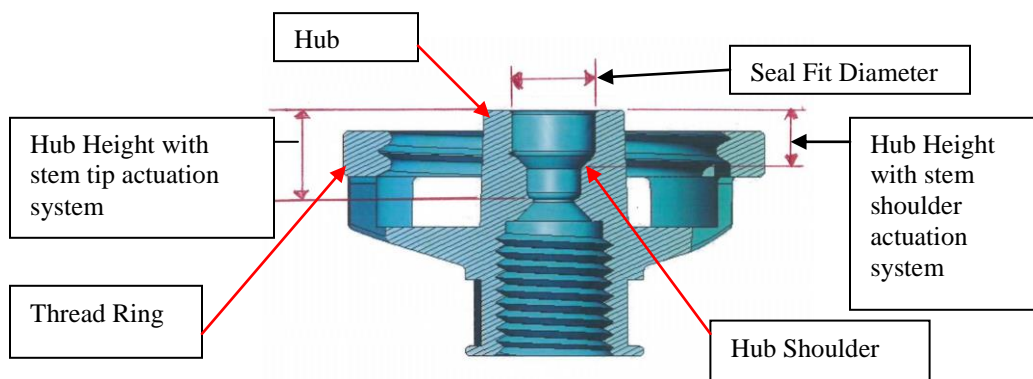
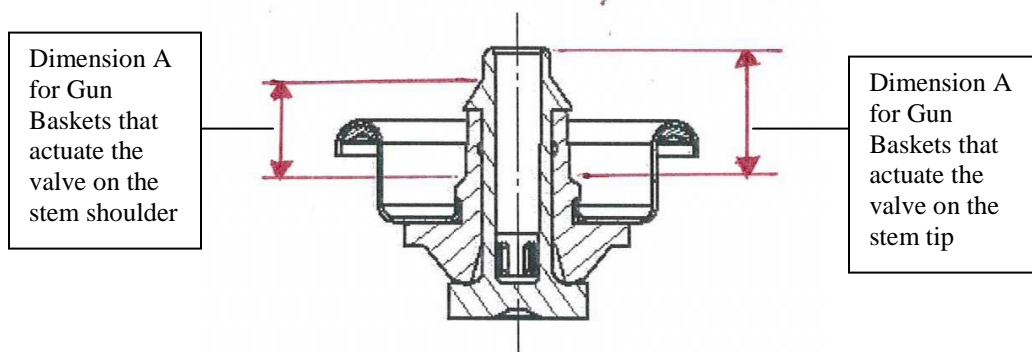
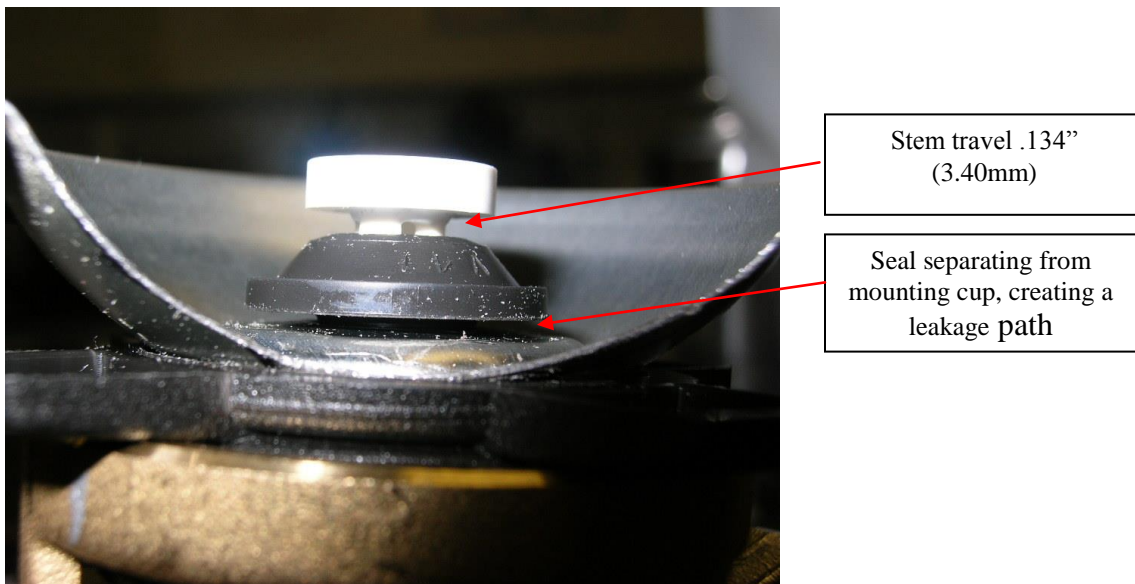

Figure 6 - Dispensing Gun Basket
Figure 21 - Valve Dimension A
Figure 24 - Stem opening distance of 0.134" (3.40mm) causes seal to lift off mounting cup
3. Dispensing Gun's Basket (see Figure 6).
1. The angle of the Hub Shoulder in the Gun Basket (reference Figure 6): Variations in the angle have resulted in point contact instead of surface contact between the stem shoulder and hub shoulder. This, at one time, was the main sealing location that prevented leakage between the can of foam and the dispensing gun. If good contact was not accomplished, foam would leak.
2. The finish on the Hub Shoulder surface in the Gun Basket (reference Figure 6): As above, this surface once provided the seal between the can of foam and the gun. Roughness or damage on this surface caused leaking.
3. Variations in the Gun Basket's seal fit diameter (reference Figure 6): Variations in this diameter affects how the valve's rubber seal forms a seal between the can of foam and dispensing gun. If the diameter is too small it can impact the stem shoulder and open the valve before creating a seal between the valve and gun basket. It can also restrict the expansion of the upper tube of the valve's rubber seal causing the stem and seal to become locked together and move as a unit. This situation puts added pressure on the cup bead of the valve's rubber seal. If the diameter is too large, the valve can open before a seal between the valve and gun basket is achieved. This could result in a momentary leak when installing and removing the dispensing gun from the can.
1. The hub height is too large (reference Figure 6).
To insure there is enough space between the gun basket's hub and mounting cup, when the can is attached onto a gun, the hub height (reference Figure 6) plus the opening distance must be less than Dimension A as shown in Figure 21.
The increasing diameter of the seal contacts the inside of the gun basket's seal fit diameter (reference Figure 6). The contact between the seal and the gun basket is one method that prevents foam leakage. The further the valve is opened, the larger the seal diameter becomes. At a certain point, the seal can no longer move outward because it is wedged tightly in the gun basket hub's seal fit diameter. If the can is screwed beyond this point, all the applied force is directed toward simultaneously moving the stem and rubber seal downward. This downward movement attempts to push stem/seal through the mounting cup. In this situation, a very high force is exerted on the seal's bead causing the seal to move away from the mounting cup (see Figure 24). When the seal moves back and off the mounting cup, it is possible to open a leak path between the mounting cup and seal. Experience has shown that as long as one does not try to open the valve further than the maximum, the valve's stem and rubber seal will not be pushed back into the can even when the gun basket's seal fit diameter is the same as the seal's diameter.
Previously it was believed that as long as the tip of the valve was at the same level as the top of the gun collar, the valve would be opened the proper distance. This approach worked well to provide consistent opening of the valve with a given collar and gun basket combination. However, this relationship has been found not to be universal for all collar and gun basket combinations. Originally it was thought to be true because the collar/gun basket combinations at that time limited the opening of the valve by reaching a positive stop. It has now been found that some collars on the market allow the valve to be opened to distances that physically distort and damage the valve. These large opening distances were designed to provide extra force to the valve's stem as a means of freeing stuck valves. However, as shown in Figure 24, when the valve is excessively opened it is distorted resulting in possible damage and leakage.